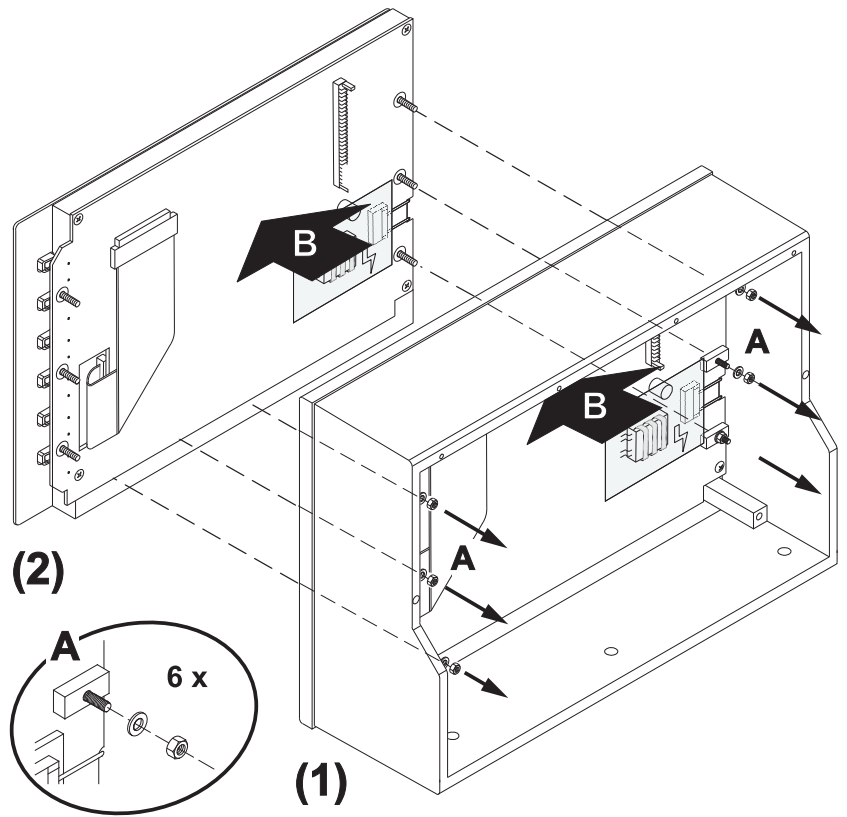

Fig. E 7-6: Removing the mounting unit with the display
5. Loosen the six nuts and washers (A) of the display pcb. With one hand inside and the other hand outside carefully push the display assy (B) including the scale (which thereby is loosened) from the inner side to the **front side** out of the frame. (Fig. E 7-6) Please send the unit back to RTW.